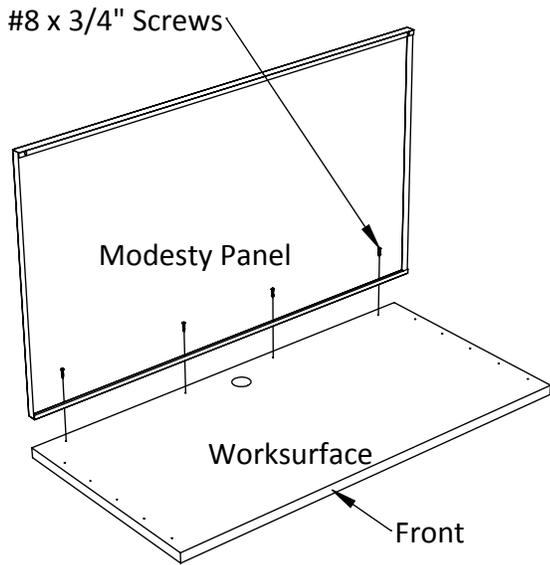

Figure 1
3. Align the modesty panel holes with the pre-drilled holes in the bottom of the worksurface. See **Figure 1**.
4. Use a phillips screwdriver to install the (4) screws through the holes in the modesty panel and into the worksurface, tighten the screws securely.